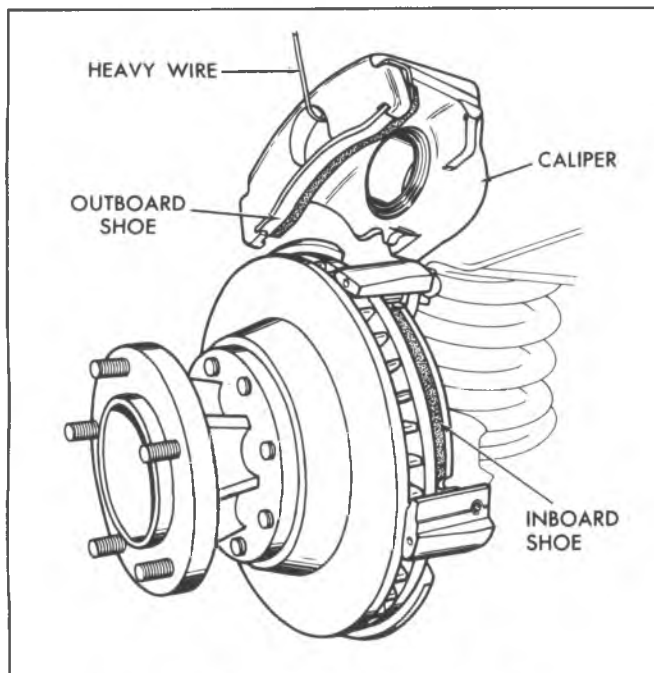

Fig. 5-35—Removing Caliper from the Disc
5. Lift the caliper off the disc and support in a raised position with a heavy wire (fig. 5-35).